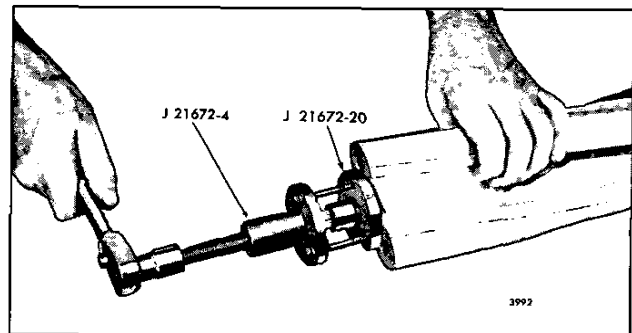

Fig. 9 – Removing Oil Seal Sleeve and Roller Bearing Inner Race from Rotor Shaft
- Place the roller bearing inner race and oil seal sleeve remover J 21672-20 over the rotor shaft behind the oil seal sleeve as shown in Fig. 9.
- Back out the center screw of one gear puller J 21672-7, then attach the puller to the oil seal sleeve remover with three 1/4"-20 x 3" bolts and flat washers as shown in Fig. 9.